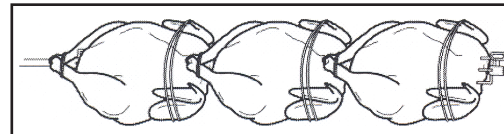

Fig. 13
**Three Chickens on a Spit (Fig. 13)**